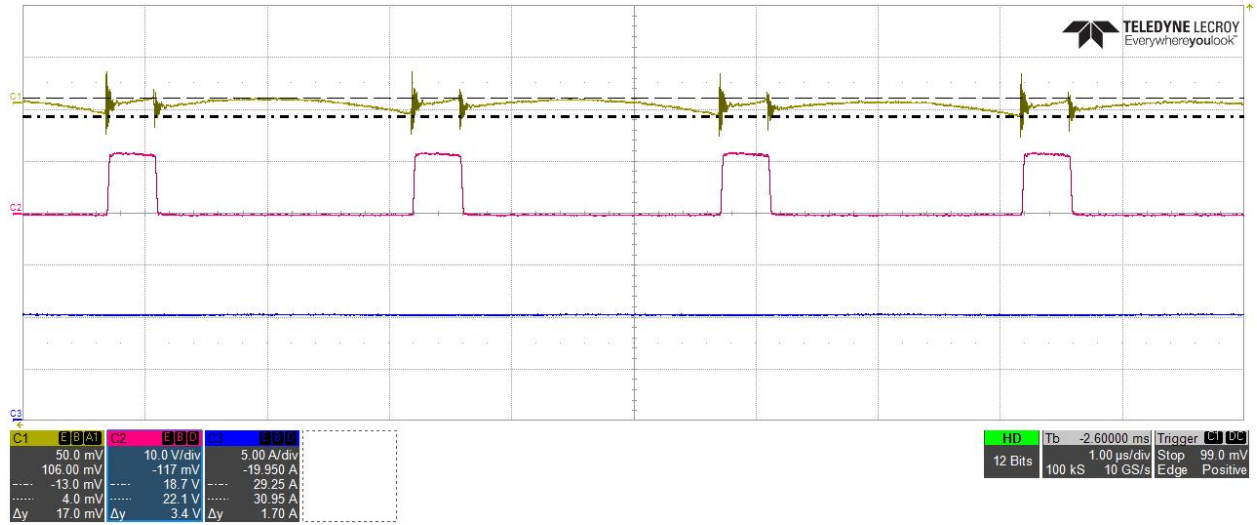

Figure 2. Output voltage ripple measurement showing  $V_{OUT}$  (C1),  $V_X$  (C2), and  $I_{OUT}$  (C3).
- 3) Output Ripple (**Figure 2**)
The output voltage ripple is measured at the full 10A load and shown in Figure 2. The capture shows that the output voltage ripple at full load is about 17mV, which meets the design criteria.